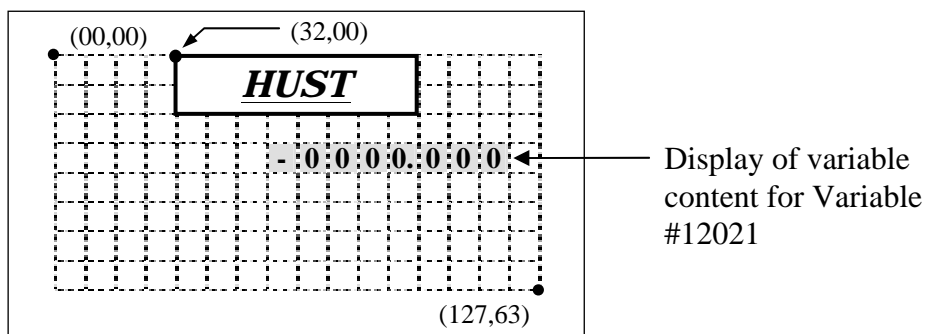

Fig 12-14 LCD Display for Page 1 Object
Step 2: Press ESC to return to main function page and the edited content is displayed as shown as Fig 12-14.